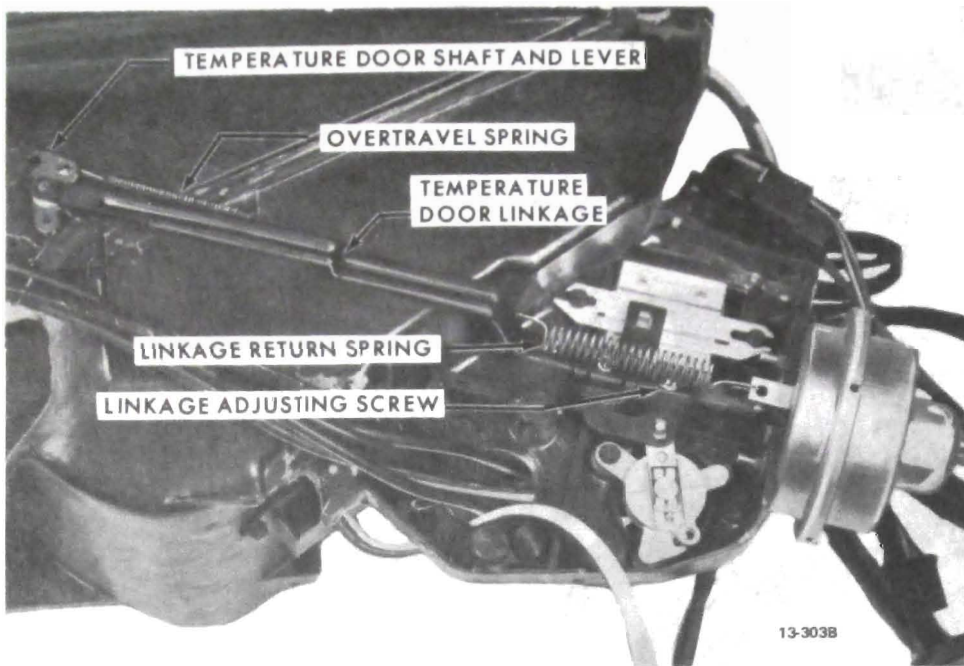
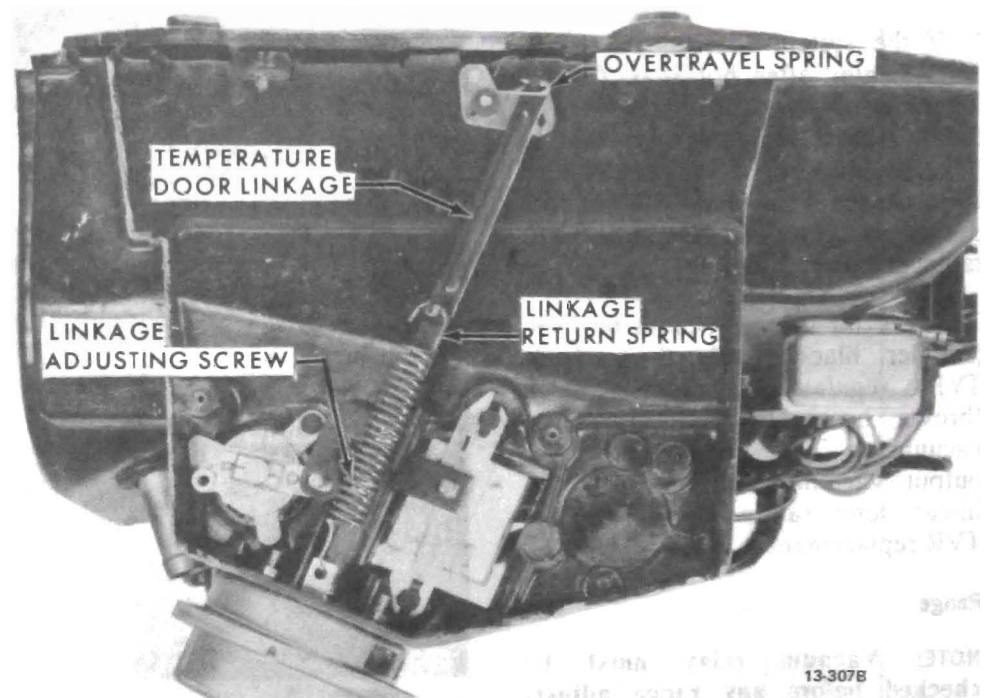

Figure 13-206 45-46-48000 Series
Figure 13-207 49000 Series PVA
4. Disconnect linkage return spring. 45-46-48000 Series see Figure 13-206. 49000 Series see Figure 13-207.
5. Loosen temperature door linkage adjusting screw. 45-46-48000 Series see Figure 13-206. 49000 Series see Figure 13-207.